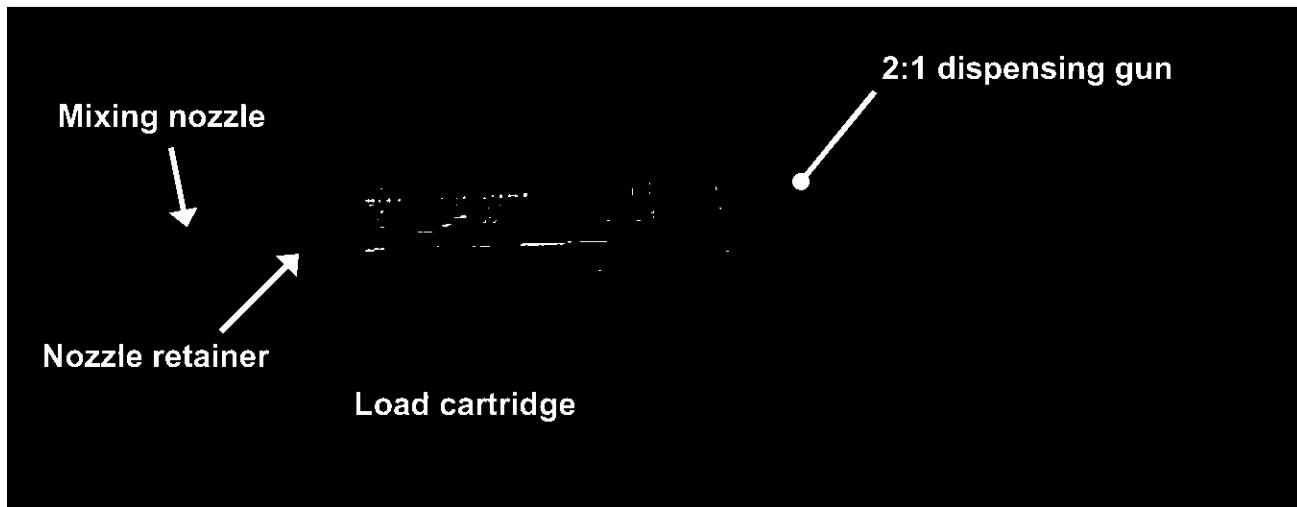

Figure 5
12. Prepare for application of LORD Fusor[®] 108B structural adhesive (see Figures 5 and 6).
- Make sure the nozzle retainer is installed (see Figure 5).